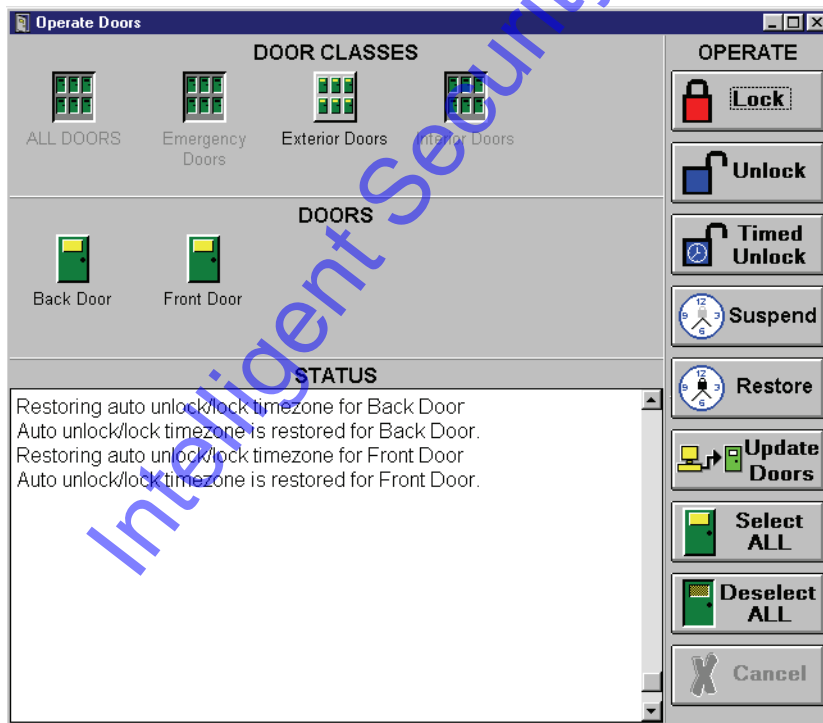

Figure 6-20: Restore Auto Unlock/Lock on All Doors in a Door Class
4. To proceed with the Restore, click on the  button. The resulting window should look similar to Figure 6-20.